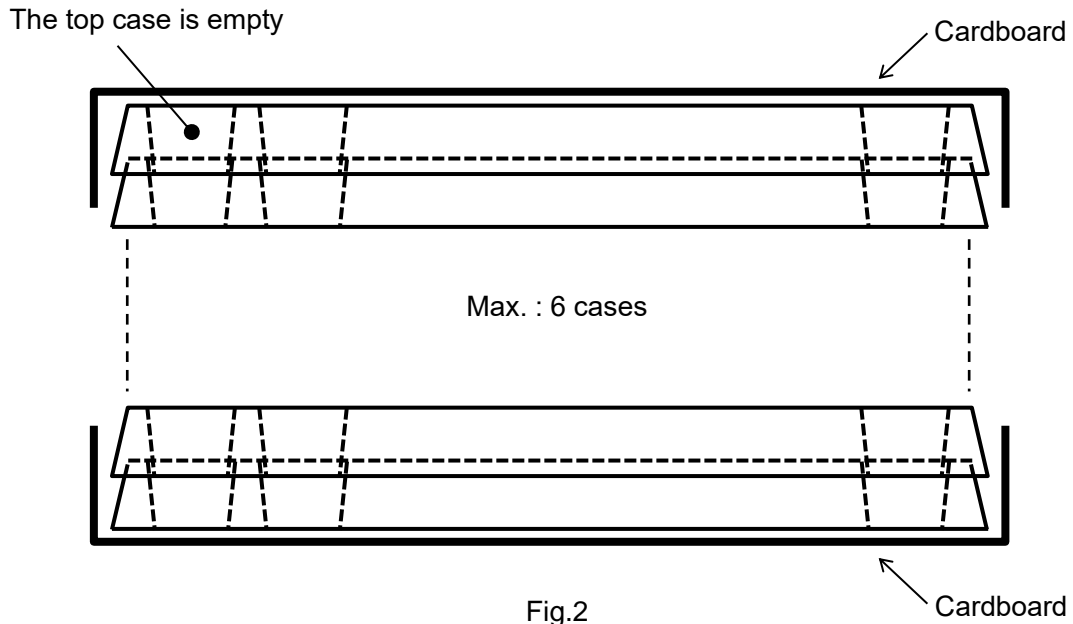

Fig.2
- (1) Put PD5 (Max. : 100 pcs.) in the packing case.
- (2) Pile up 6 cases (the top case is empty), cover top and bottom with the cardboard and fix 2 places with rubber bands. (Refer to Fig.2)